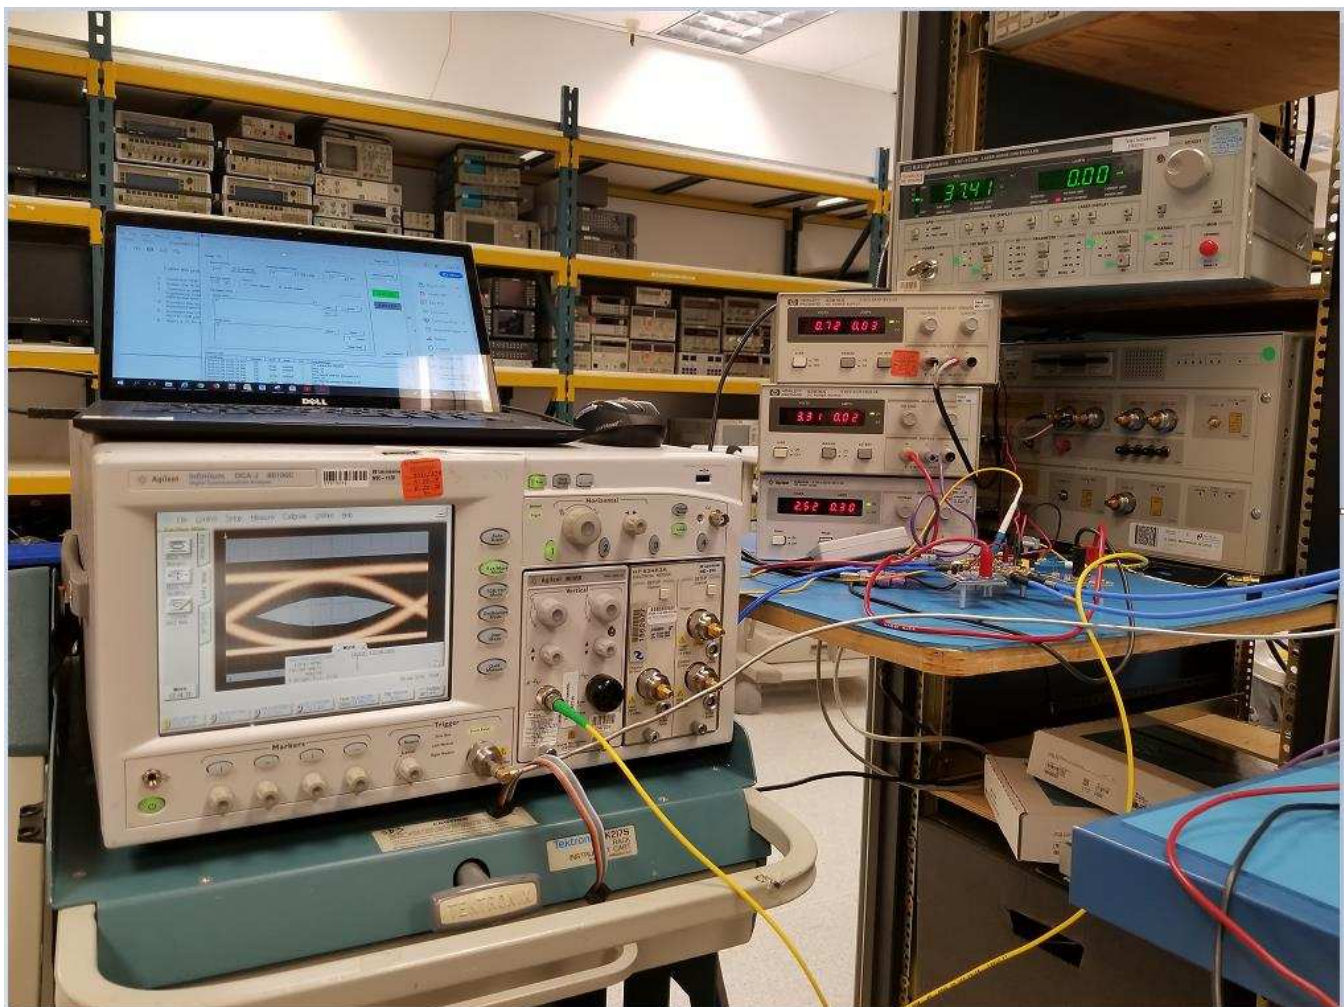

Figure 10. Typical ONET1130EC-EVM Setup
Figure 10 shows a typical setup.
2. Set the desired TX Laser Bias Current: For example, in setup for Figure 10 we have Reg 0x0F = 0x60